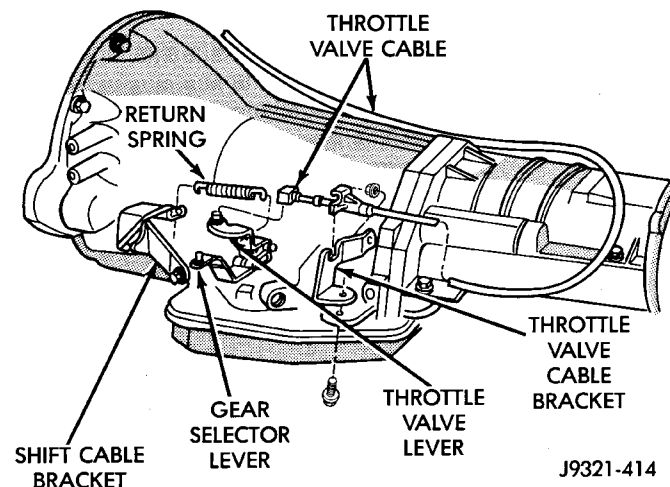

Fig. 259 Throttle Cable Attachment At Transmission
- (1) Turn ignition key to OFF position.
- (2) Remove air cleaner.
- (3) Verify that lever on throttle body is at curb idle position. Then verify that transmission throttle lever (Fig. 259) is also at idle (fully forward) position.